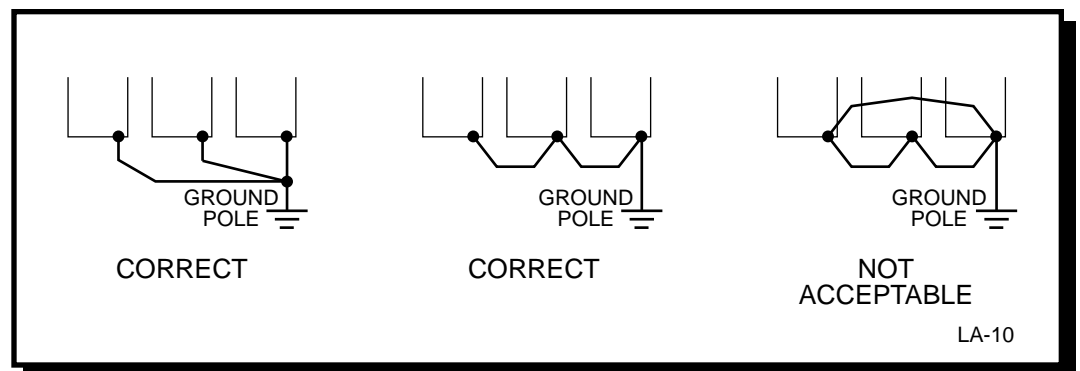

Figure 7. Grounding of Multiple Units
- ❑ Where several units are used side by side, all units should be grounded directly to the ground pole. However, it is permissible to connect all the ground terminals in series and ground only one unit to the ground pole (refer to Figure 7). **DO NOT FORM A LOOP WITH THE GROUND WIRES.**